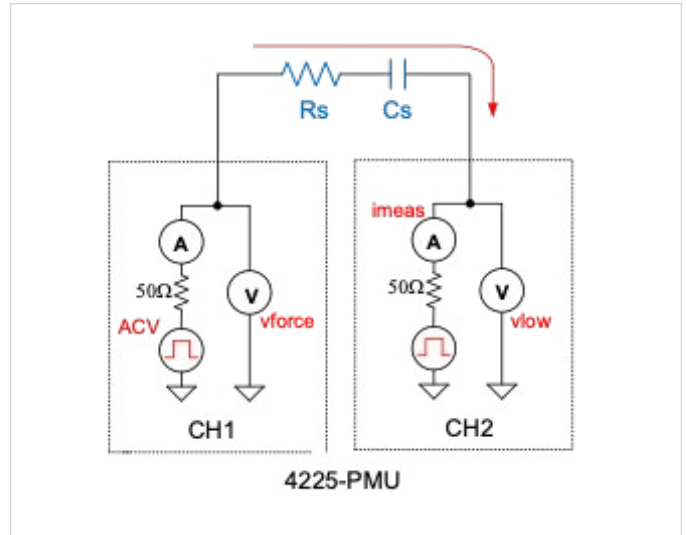

Figure 7. PMU connections for measuring the AC impedance of a series RC circuit.
For example, a series RC circuit can be connected between CH1 and CH2 of the PMU as shown in **Figure 7**. CH1 outputs a periodic pulse waveform (ACV), and CH2 measures the resulting current (imeas). From the measured current, voltage, and time, the AC impedance parameters of the test circuit, such as the series resistance (R_s) and reactance (X_s), the real and imaginary parts of the impedance, are derived using FFT computations. The capacitance (C_s) and dissipation factor (D) can be derived using R_s and X_s .